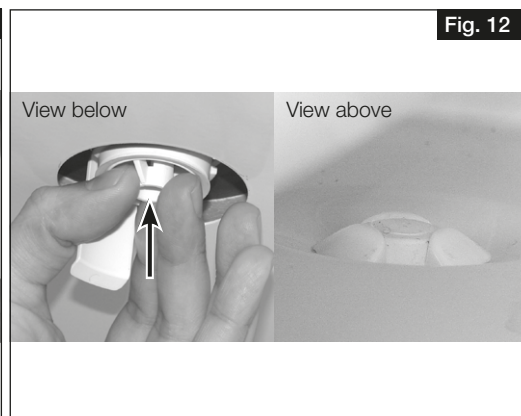

Fig. 12
- Plug the mounting part in the condensate outlet from below, until the claw fasteners snap to the edge of the base plate (see Fig. 12).